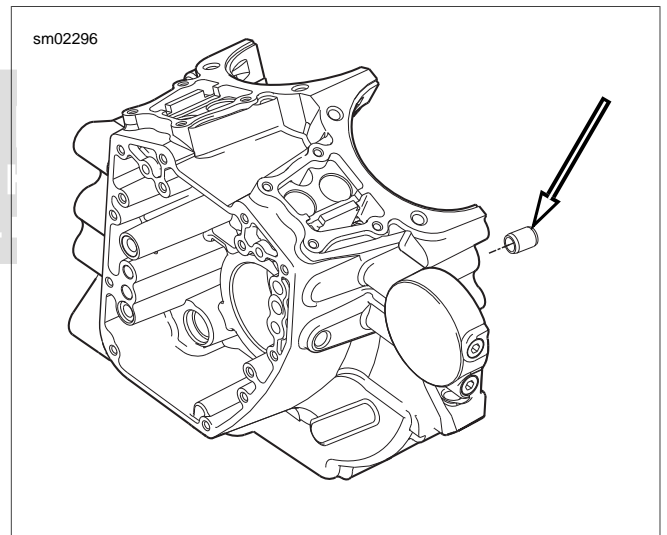

Figure 3-54. Right Crankcase Forward Dowel Pin (Rear Dowel Pin Not Shown)
6. See Figure 3-54. Remove two dowel pins in split line face of right case half.